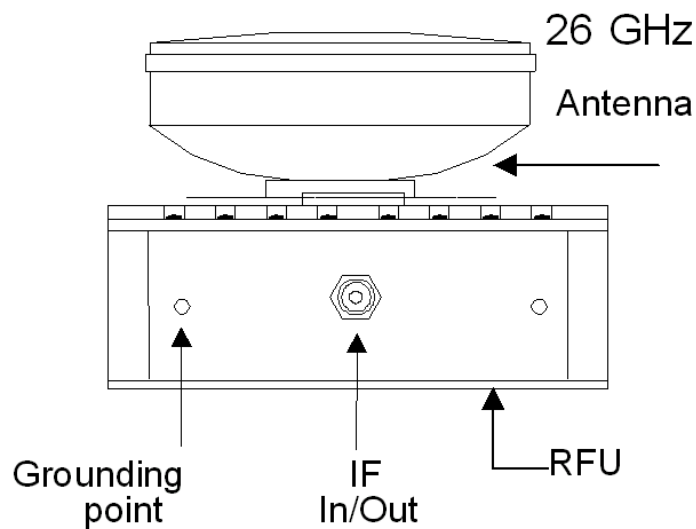

Figure 8-15: TS 26 GHz-ODU Cable Connections
Table 8-3 and Figure 8-15 provide the details of the TS 26 GHz-ODU cable connections. Please notice that a single coaxial cable is connected between the TS-RFU and the TS-IDU. For a cable length greater than 150m, use a higher quality cable than the LMR400, since the total cable attenuation must not exceed 20dB regardless of its length.
- Referring to Figure 8-15, connect the ground/earth cable to the TS ODU.
- Referring to Figure 8-15, connect a single coaxial cable is between the ODU and the TS IDU IF connector. For a cable length greater than 150m, use a higher quality cable than the LMR400, since the total cable attenuation must not exceed 20dB regardless of its length.